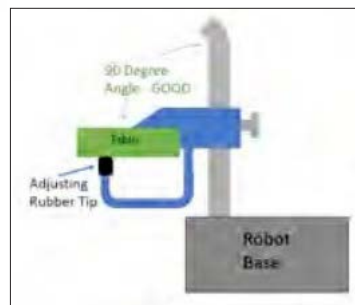

Figure 2-1
1. Turn the adjustable rubber tips on the ends of the Support Legs as needed so that the Ball Feed Tube is straight up, not tilting forward or backward. (Photo 2-18, Figures 2-1, 2-2)